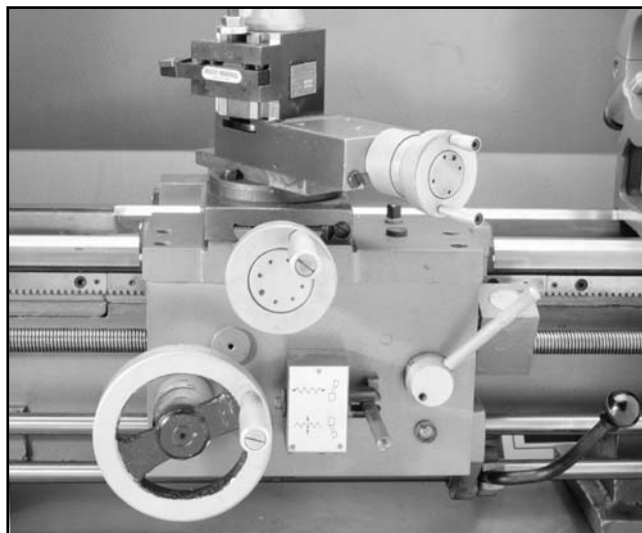

Figure 24. Carriage control lever in neutral.
1. Make sure the machine is properly grounded, the Power Switch is in the "OFF" position and the spindle control lever is in the neutral position. **See Figure 24.**